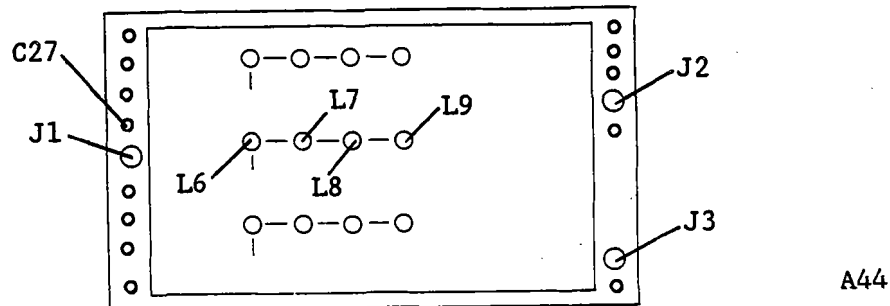

Figure 3-127. 340 - 500 MHz Voltage Tuned BPF Adjustment Locations
9. Connect the equipment as shown in Figure 3-121. See Figure 3-127 for A44J1 and A44J2 locations.